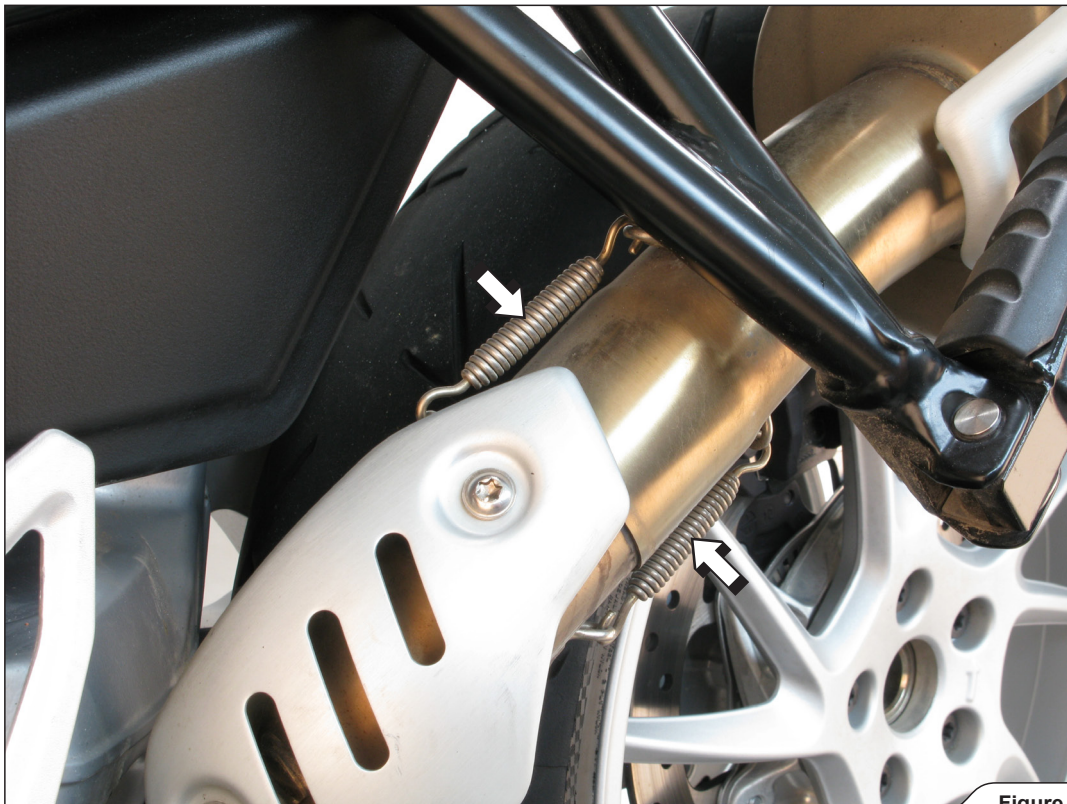

Figure 1
2. Undo the marked muffler's inlet springs (Figure 1).